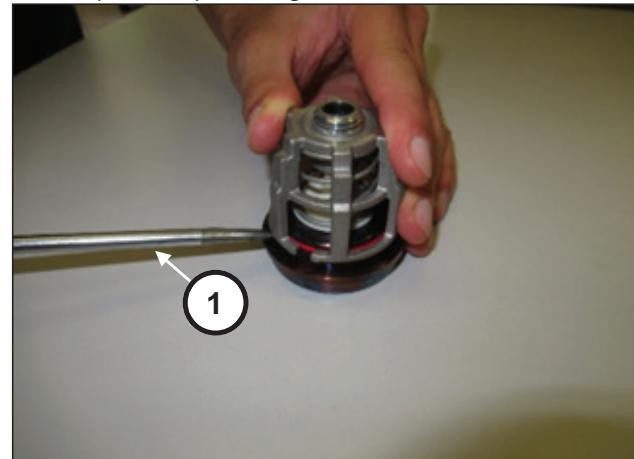

Fig. 114
Disassemble the suction and outlet valve units by levering with simple tools (pos. ①, Fig. 114).